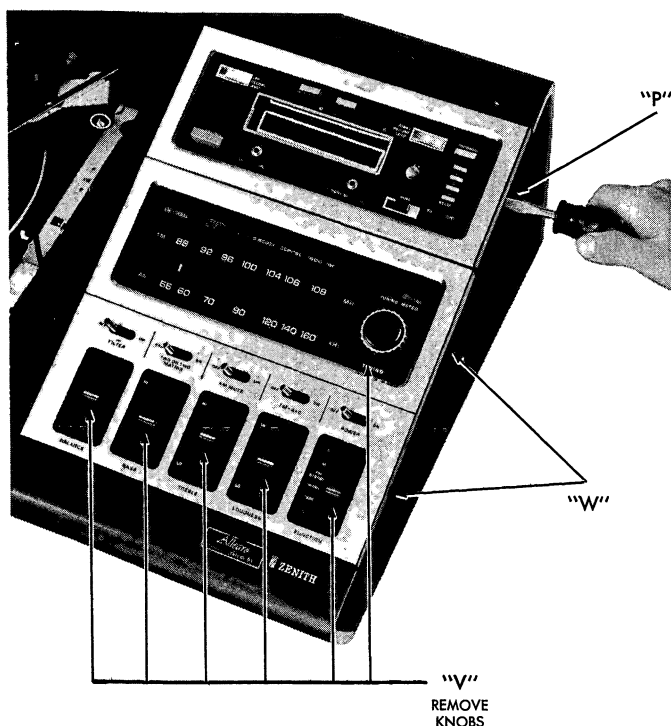

FIGURE 3 – MODELS H596W AND HR596W
5. The tape unit mounting screws are covered by a "snap off" escutcheon. A notch will be found at the center of the outer edge of the escutcheon ("P" in Figure 3). Insert a thin blade screwdriver into this notch between the escutcheon and the cabinet proper, being careful not to mar the surface. Force the escutcheon upward, causing it to disengage the first stud. Grasp the escutcheon along the top, lifting to disengage second stud. Remove escutcheon.
5. Remove six (6) knobs ("V" in Figure 3).
6. The tuner chassis mounting screws are covered by a "snap-off" escutcheon. Two notches will be found on the bottom of the outer edge of the escutcheon ("W" in Figure 3). Insert a thin blade screwdriver into these notches between the escutcheon and the cabinet proper, being careful not to mar any surface. Force the escutcheon upward, causing it to disengage first two studs. Grasp the escutcheon along the top, lifting to disengage second two studs.